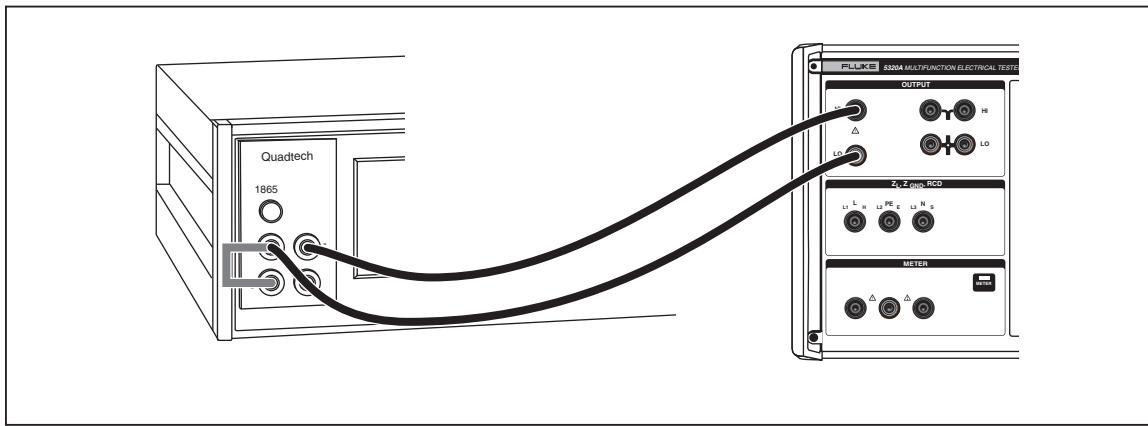

Figure 3-27. High Resistance Source (>10 MΩ) Calibration Connections
5. Connect the Calibrator directly to the megohmeter as shown in Figure 3-27.